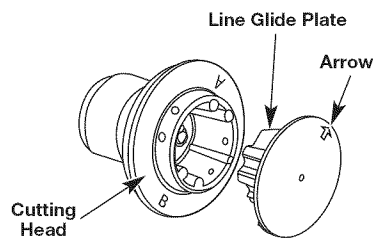

Fig. 13
3. Reinstall line glide plate (Fig. 13). Align arrow with: